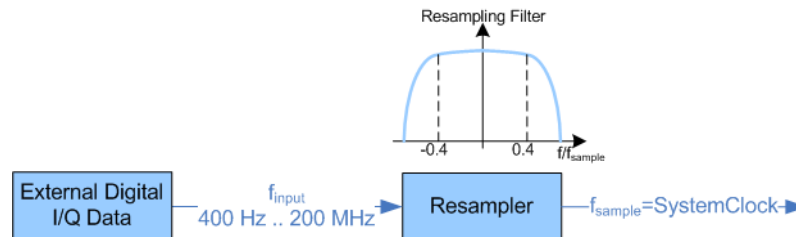

Figure 6-34: Resampling of external digital baseband signals
- External input signals with sample rates different than the system clock are resampled, as shown in Figure 6-34.
- A baseband signal with a sample rate that is smaller than the used system clock is interpolated (see Figure 6-34). The resulting modulation bandwidth is calculated as $\text{Sample Rate} * 0.8$, i.e. with a sample rate of exactly 200 MHz, the modulation bandwidth is 160 MHz.